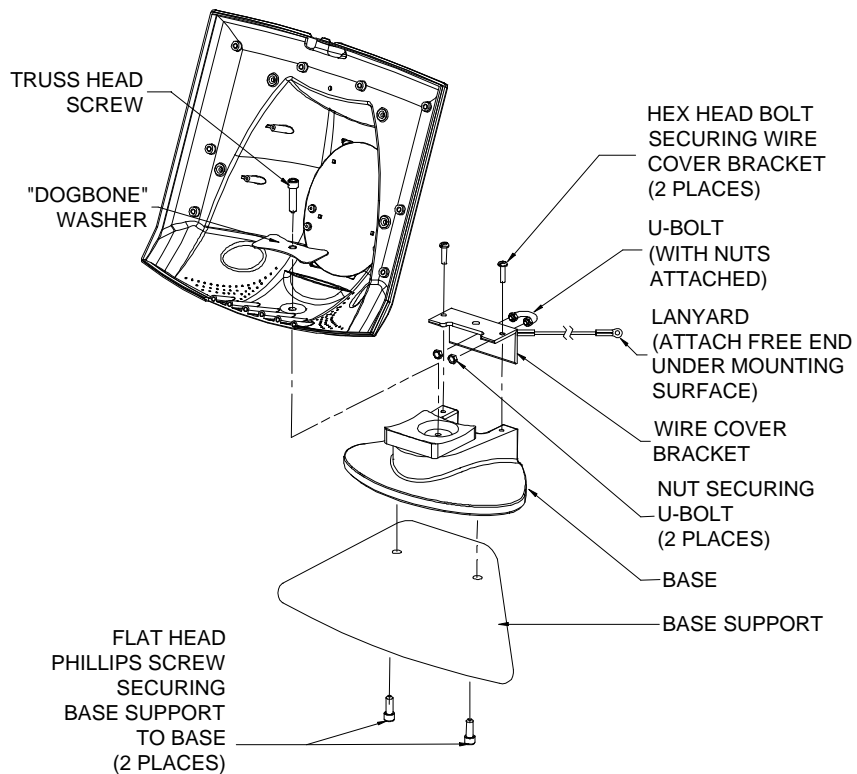

FIGURE 8 - TABLE OR BAR TOP MOUNTING OF TERMINAL USING BASE SUPPORT
2. Using the 2 supplied flat head Phillips screws (1/4 - 20 x 3/4 L), secure the base to the base support as shown in Figure 8.
4. Secure the terminal to the base with the supplied "dogbone" washer (with the hole in the "dogbone" washer closest to the front of the terminal) and truss head screw (3/8 - 16 x 1 1/4 L) as shown in Figure 8. Tighten the screw until the "dogbone" washer conforms to the shape of the terminal.
5. Attach the 2 nuts to the U-bolt and then secure the U-bolt and the lanyard to the wire cover bracket using the 2 kepnuts as shown in Figure 8.